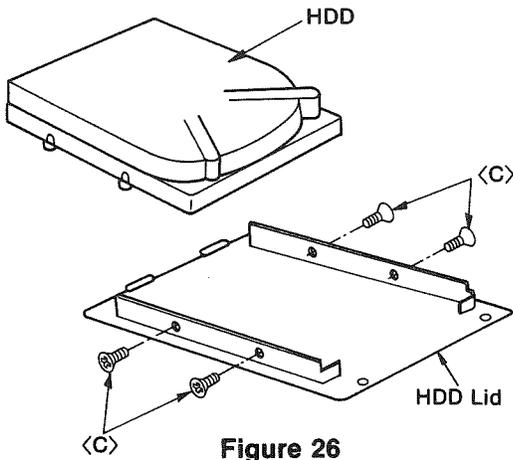

Figure 26
- (7) Turn over the HDD and remove four screws <C> (3×4mm) and the HDD Lid as shown in Figure 26.